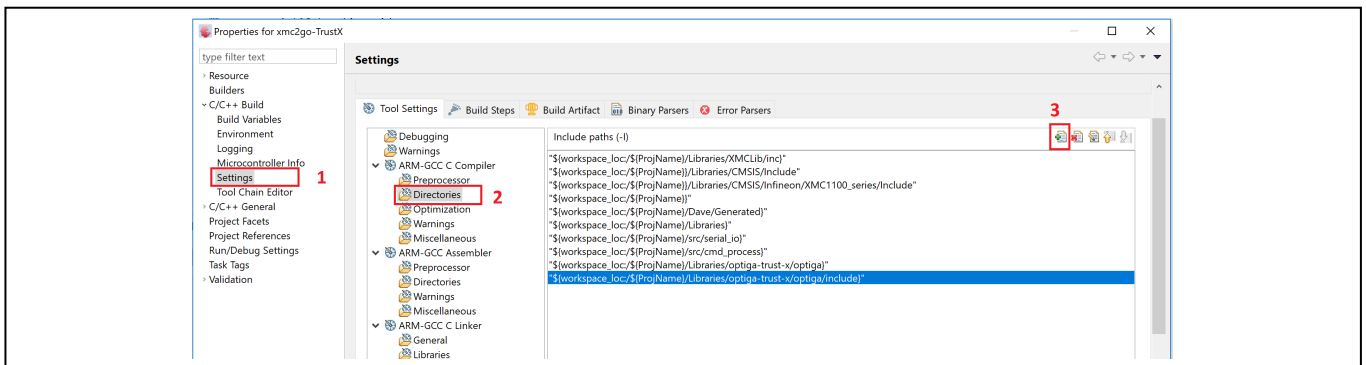

Figure 20 Adding a New Directory to the Build Process
- ARM-GCC C Compiler -> Directories, as shown in **Figure 20**.
- Add a new path (3)